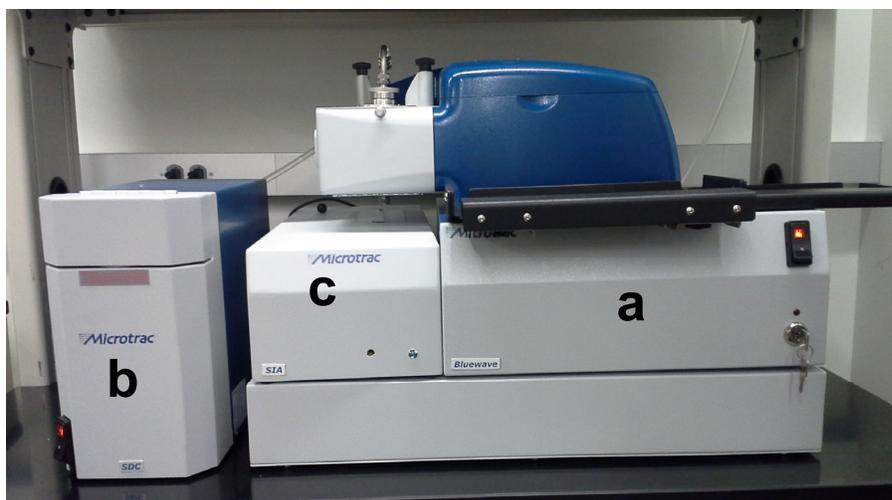

Figure 1. The Microtrac Bluewave tool.
- 3. Tool Components.** Figure 1 shows a front view of the Bluewave. Key components visible in this view are: